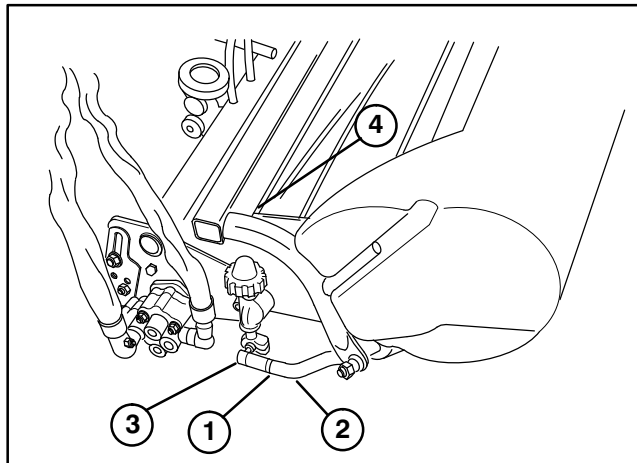

Figure 8
6. Mount the baskets on the pull frames, loosen the jam nuts on the pull arms and adjust the ball sockets until there is 1/4 in. to 1/2 in. clearance between the lip of the basket and the reel blades (Fig. 8).
7. Align the sockets in the ball joints so the open side of the socket is centered towards the ball stud. Tighten the jam nuts to secure the sockets in position (Fig. 8).